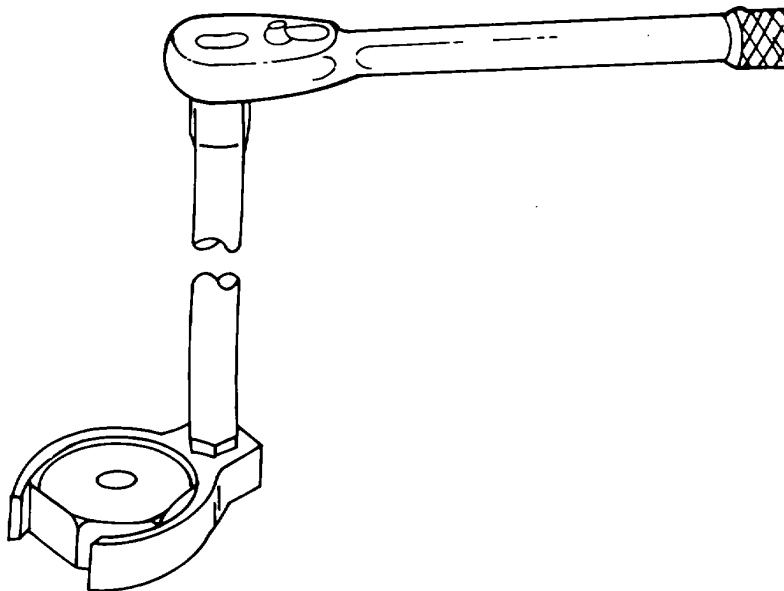

Figure 7-21. Using a Crowfoot Wrench
a. Use. Figure 7-21 shows a typical use of a crowfoot wrench, where a bolt is installed in a location where an obstruction does not allow the use of a socket or a wrench. The wrench is attached to an extension, which is then attached to a socket handle which is in this case a ratchet.